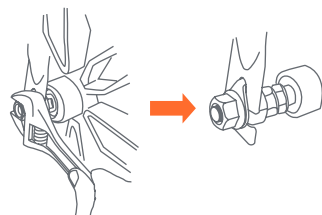

Fig. 4
- 4) • With the wheel in position, tighten the axel nuts and tighten with standard crescent, box, or open end wrench. You should feel significant resistance and the wheel should be held tightly in place (Fig. 4).